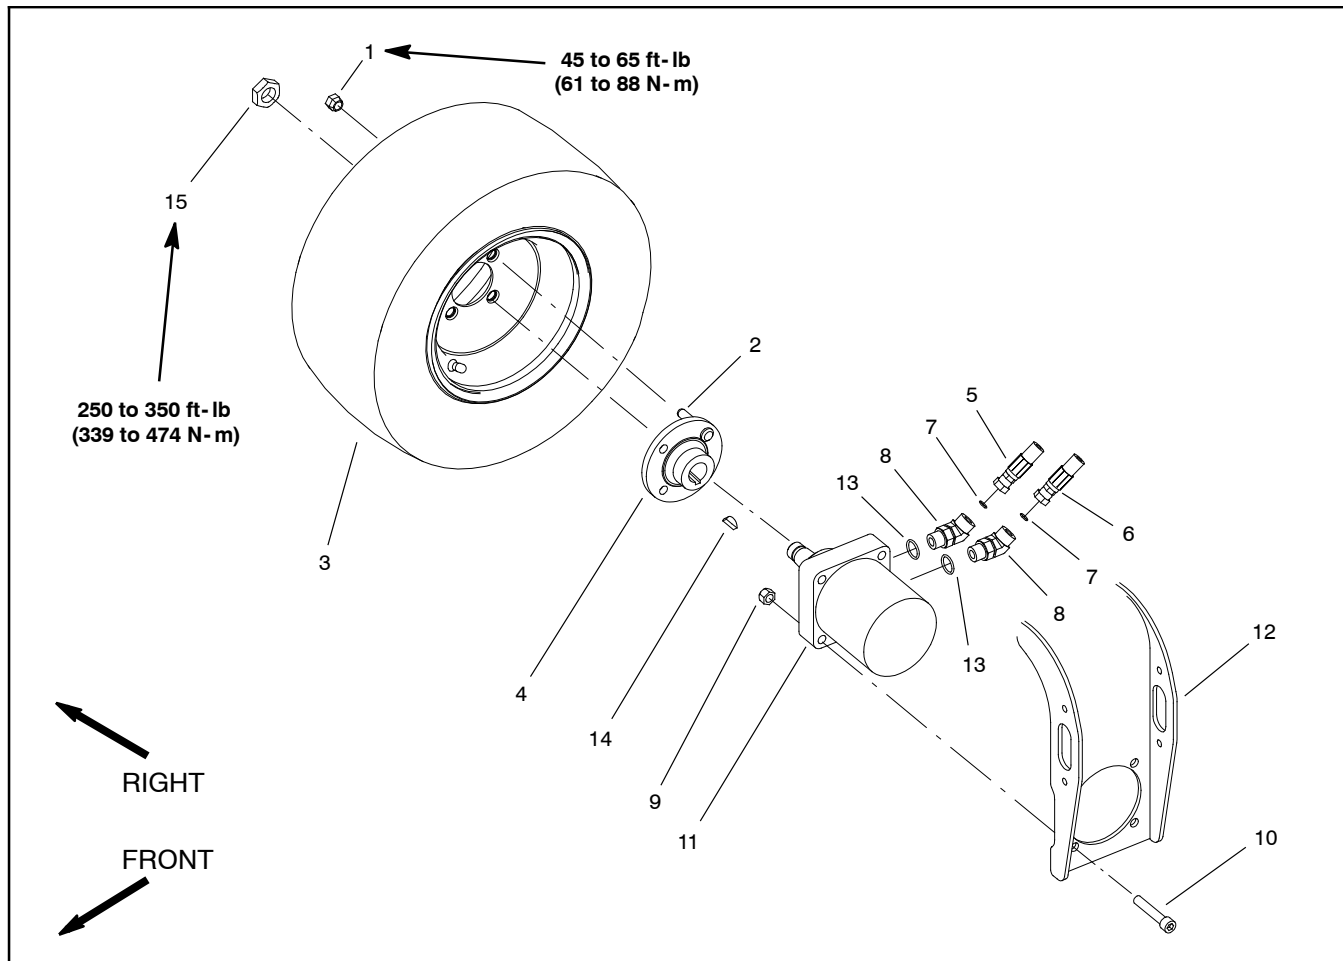

Figure 82
### Removal (Fig. 82)
4. Remove rear wheel motor with wheel hub attached from the rear fork using Figure 82 as guide.
### **Installation (Fig. 82)**
4. Install wheel motor to the rear fork using Figure 82 as guide.